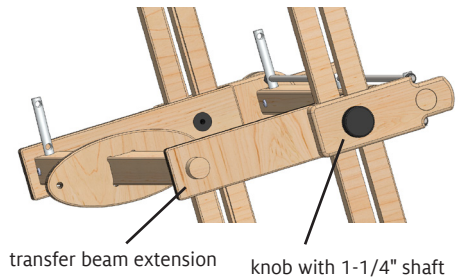

FIGURE 10: ATTACH TRANSFER BEAM EXTENSION ON OPEN SIDE
10. Attach the second transfer beam extension: On the open side of the shedding device, remove the knob, nylon washer, and T-nut holding the riser in the slot of the loom upright; you can store these parts. Insert a knob with a 1-1/4" shaft through the riser and slot; add the remaining transfer beam extension on the inside of the loom, with its large hole holding the transfer beam, and tighten the knob (Figure 10).